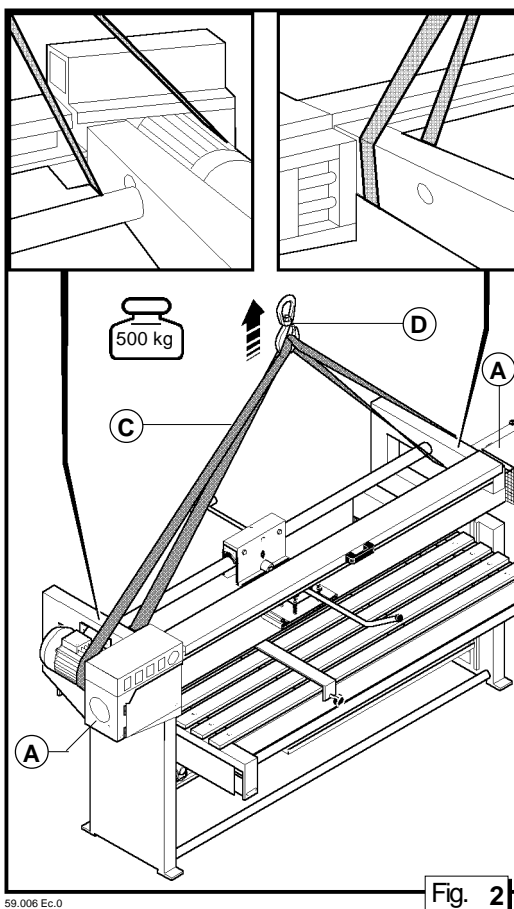

Fig. 2
4.2. SOLLEVAMENTO MACCHINA ASSEMBLATA (fig. 2)
4.2. ASSEMBLED MACHINE LIFTING (fig. 2)
- lift slings and place them as near as possible to heads **A**, as shown in figure 2;